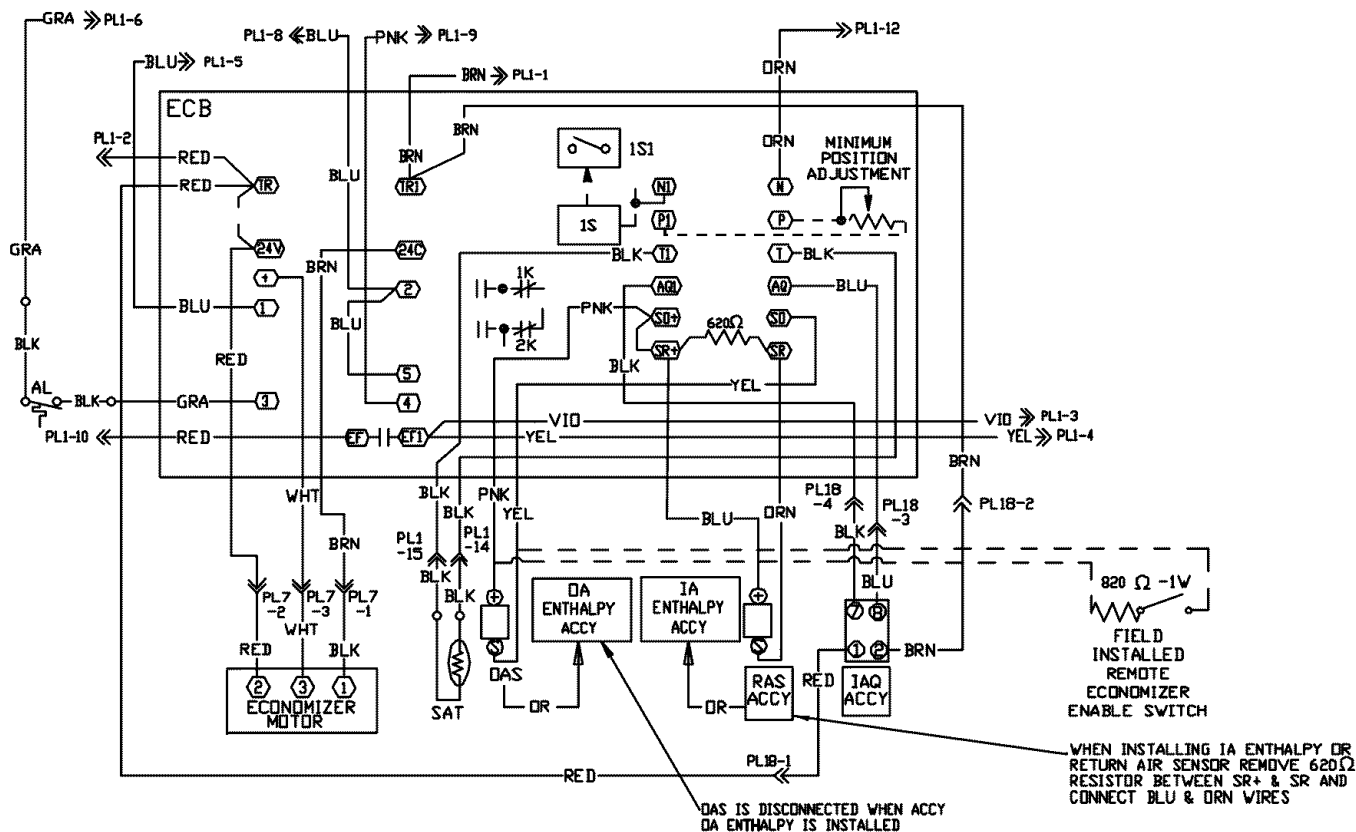
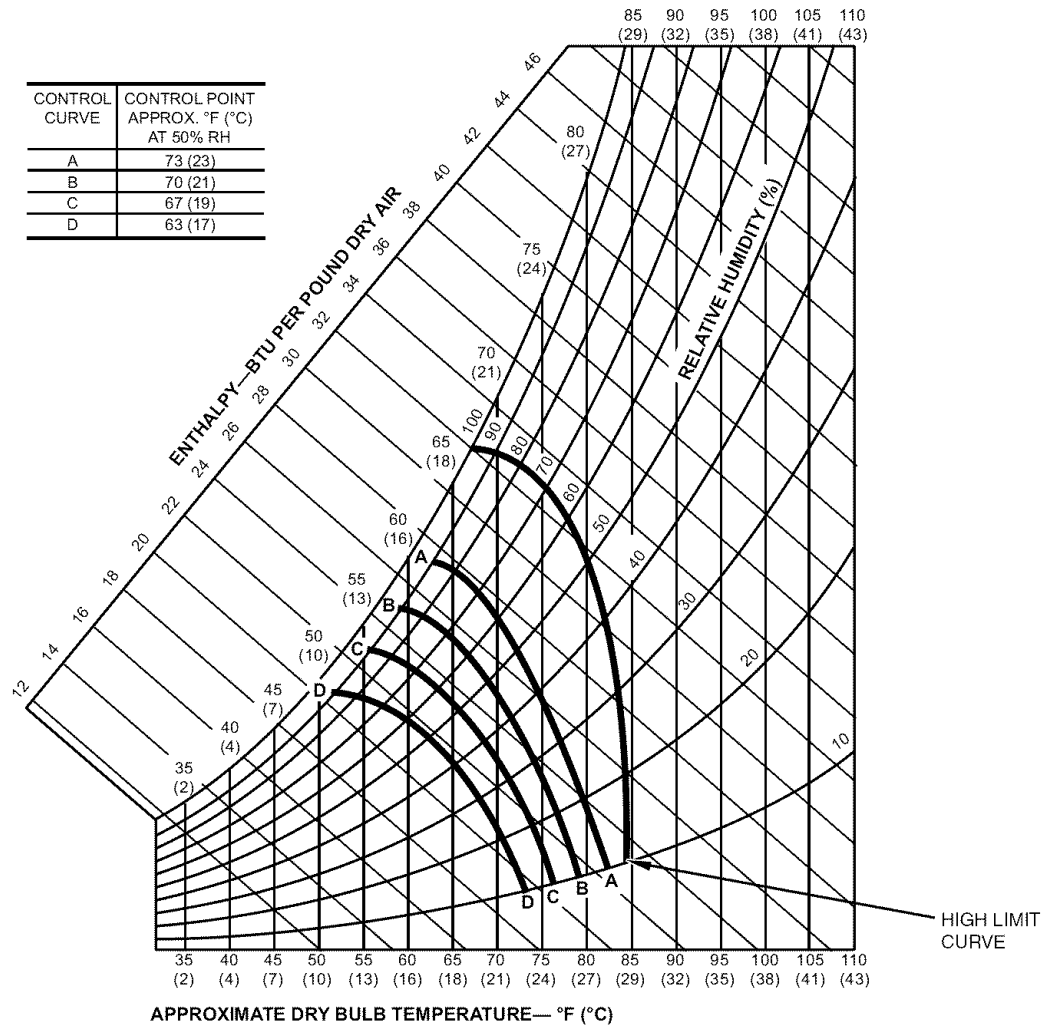
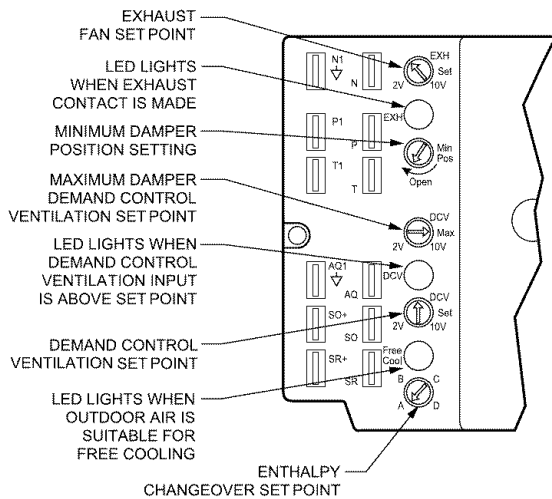

Fig. 26 — EconoMiSer IV Wiring
Fig. 27 — Enthalpy Changeover Set Points
Fig. 28 — EconoMiSer IV Controller Potentiometer and LED Locations
Differential Dry Bulb Control — For differential dry bulb control the standard outdoor dry bulb sensor is used in conjunction with an additional accessory dry bulb sensor (part number CRTEMPSN002A00). The accessory sensor must be mounted in the return airstream. Wiring is provided in the EconoMiSer IV wiring harness. See Fig. 26.
Outdoor Enthalpy Changeover — For enthalpy control, accessory enthalpy sensor (part number HH57AC078) is required. Replace the standard outdoor dry bulb temperature sensor with the accessory enthalpy sensor in the same mounting location. When the outdoor air enthalpy rises above the outdoor enthalpy changeover set point, the outdoor-air damper moves to its minimum position. The outdoor enthalpy changeover set point is set with the outdoor enthalpy set point potentiometer on the EconoMiSer IV controller. The set points are A, B, C, and D. See Fig. 27. The factory-installed 620-ohm jumper must be in place across terminals S_R and + on the EconoMiSer IV controller. See Fig. 26.
Replace the standard outside air dry bulb temperature sensor with the accessory enthalpy sensor in the same mounting location. Mount the return air enthalpy sensor in the return air duct. Wiring is provided in the EconoMiSer IV wiring harness. See Fig. 26. The outdoor enthalpy changeover set point is set with the outdoor enthalpy set point potentiometer on the EconoMiSer IV controller. When using this mode of changeover control, turn the enthalpy setpoint potentiometer fully clockwise to the D setting. See Fig. 28.
Exhaust Set Point Adjustment — The exhaust set point will determine when the exhaust fan runs based on damper position (if accessory power exhaust is installed). The set point is modified with the Exhaust Fan Set Point (EXH SET) potentiometer. See Fig. 28. The set point represents the damper position above which the exhaust fans will be turned on. When there is a call for exhaust, the EconoMiSer IV controller provides a 45 ± 15 second delay before exhaust fan activation to allow the dampers to open. This delay allows the damper to reach the appropriate position to avoid unnecessary fan overload.
Minimum Position Control — There is a minimum damper position potentiometer on the EconoMi\$er IV controller. See Fig. 28. The minimum damper position maintains the minimum airflow into the building during the occupied period.
3. Ensure that the factory-installed jumper is in place across terminals P and P1. If remote damper positioning is being used, make sure that the terminals are wired according to Fig. 26 and that the minimum position potentiometer is turned fully clockwise.
To control the minimum damper position remotely, remove the factory-installed jumper on the P and P1 terminals on the EconoMi\$er IV controller. Wire the field-supplied potentiometer to the P and P1 terminals on the EconoMi\$er IV controller. See Fig. 26.